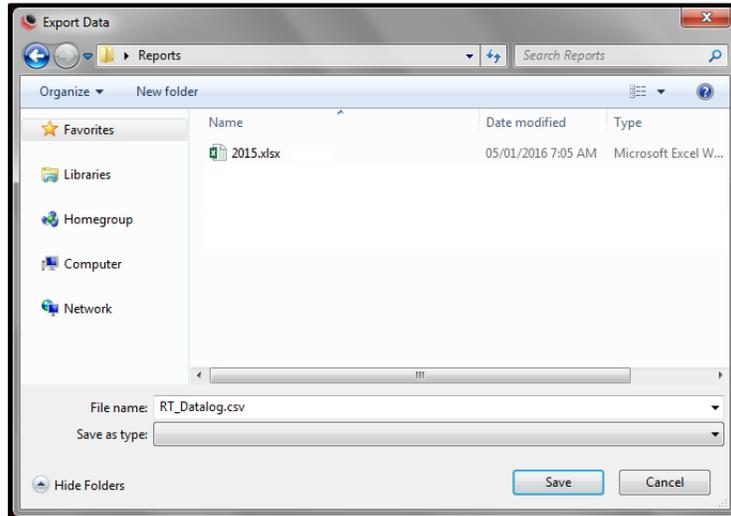

Figure 5.7-3: Saving the Data Log
- When confirmed “Yes” or “No,” a file browser will be opened asking for a location to save the file (Figure 5.7-3).